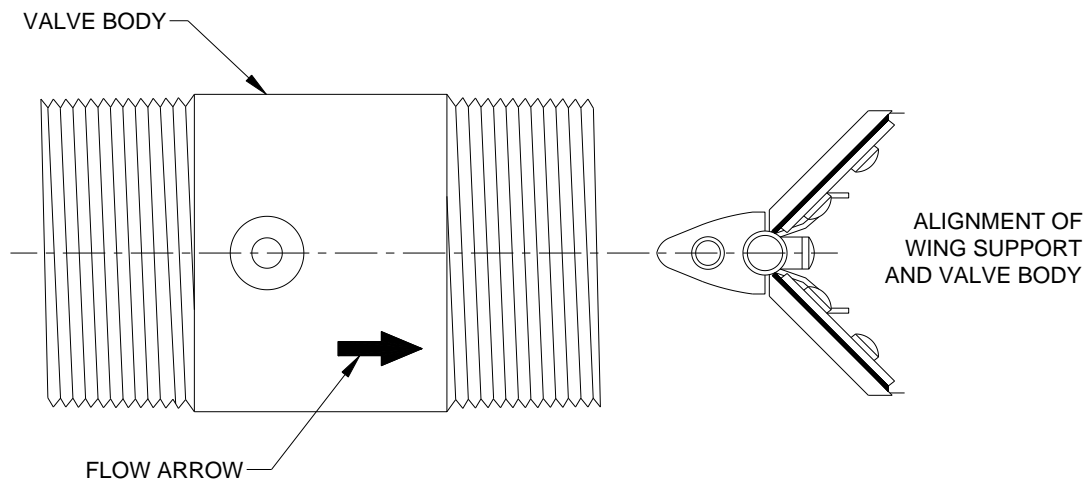

Figure FF10
- Align the wing-support, mounting screw holes and the valve-body screw holes properly. (See Figure FF10)